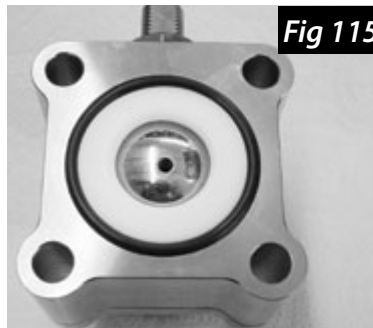

Fig 115
10. Position the second lubricated Teflon® seat and body seal o-ring onto the center section as shown in (Fig 115).